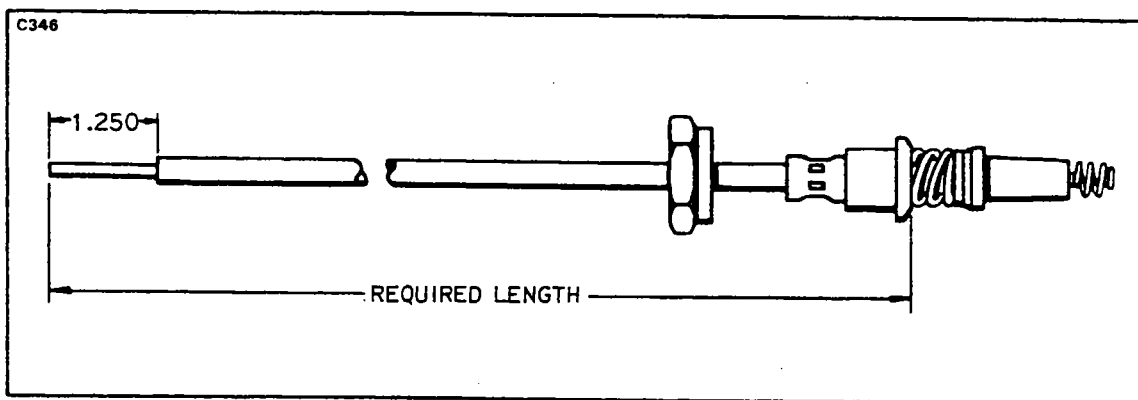

Figure 8-20. Measuring Lead Assembly Length
- (a) Measure the length of the condemned lead assembly. Move coupling nut back on lead assembly and measure from outer end of ferrule at spark plug end. See Figure 8-20